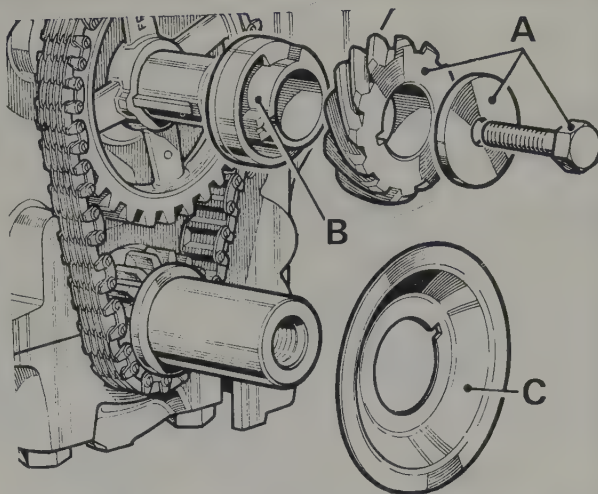

Fig. 1.28. Distributor and fuel pump drive components
- 22 Slide off the oil thrower. (Fig. 1.28).